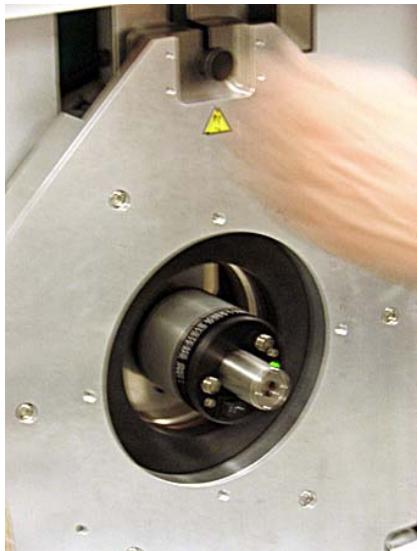
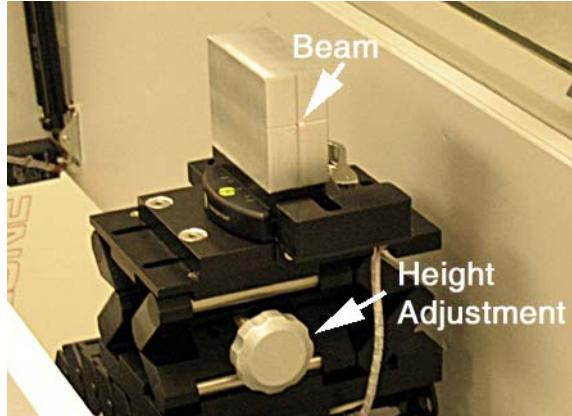

Figure 5-26
Figure 5-27
- 3.) Place the MG 2000 laser transmitter (P/N 5212073) in the Holder Disc (Figure 5-26) and switch on. The light beam should appear on the face of the target laser block (Figure 5-27). Change the height of the block using the cradle positioner height adjustment until the beam falls along the horizontal score line on the block.